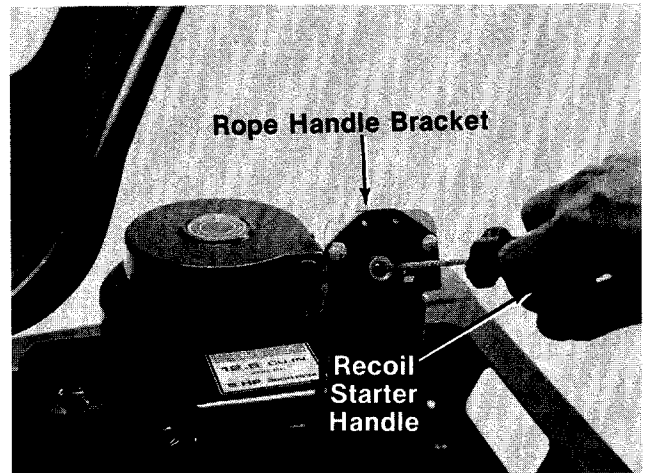

FIGURE 24.—Recoil Start Model
The recoil starter handle is located on the left rear side of rider. The recoil starter handle can be pulled while standing by the left rear side of unit. The ignition key must be on before the engine will start. After the engine starts, the recoil starter handle must be returned and locked into the rope handle bracket before the blade or clutch is engaged. The engine will stop if these instructions are not followed. See figures 24 and 25.
6. a. **Recoil Model.** Turn the ignition key to the "ON" position. Twist the recoil starter handle until it is free and pull it with a quick steady motion. After the engine starts, return the recoil starter handle and twist it until it locks. See figure 24.
To adjust the brake, loosen the outside hex nut. Tighten the inside hex nut one-quarter turn. Test the brake and repeat adjustment if necessary. Then tighten the outside hex nut. See figure 24.